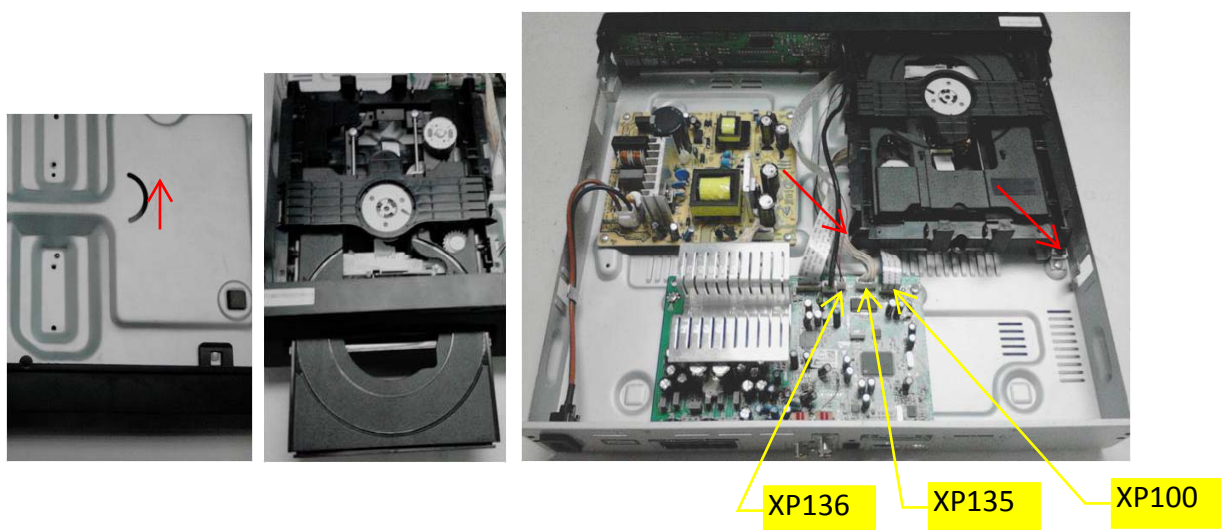

Figure 2
Step2: Dismantle the loader. Open the tray, dismantle the CD door, remove 2 screws beside the loader. disconnect connectors(XP100,XP135,XP136), then pull up the loader. (Figure 2)